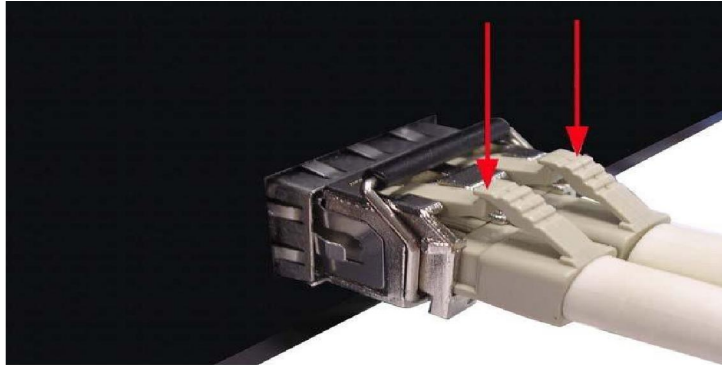

Figure 2.10
1. Press the upper side of the LC connector from the transceiver and pull it out to release as shown below in *Figure 2.10*.